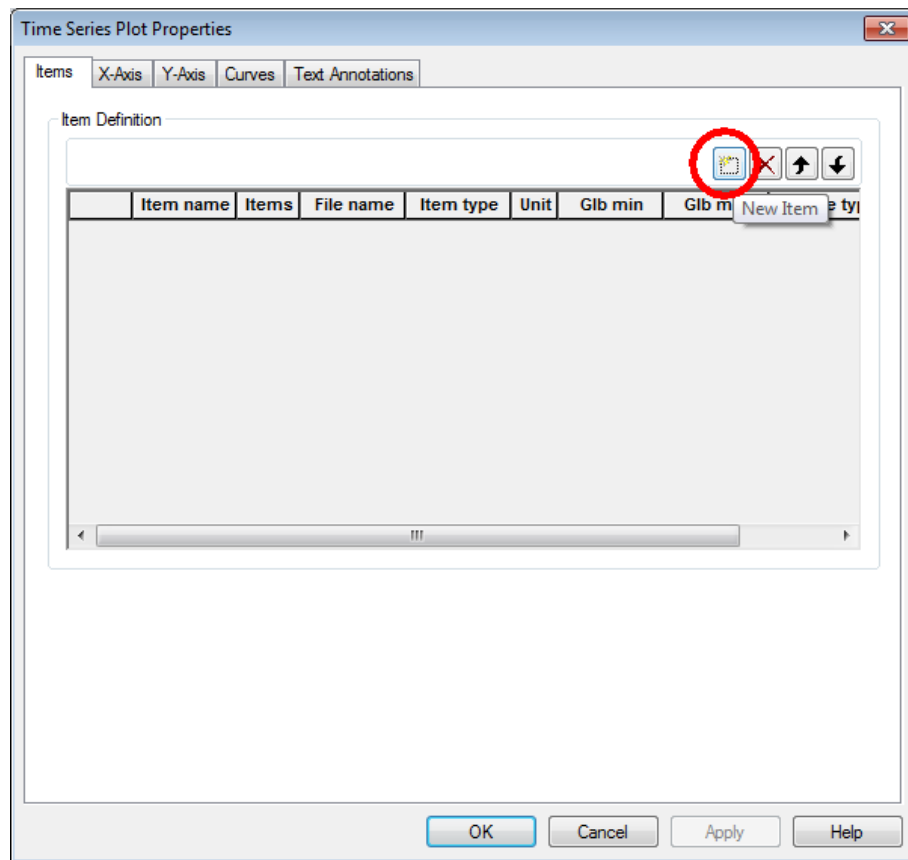

Figure 2.25 Add new time series to plc plot
6. Click on 'New Item', cf. Figure 2.25.